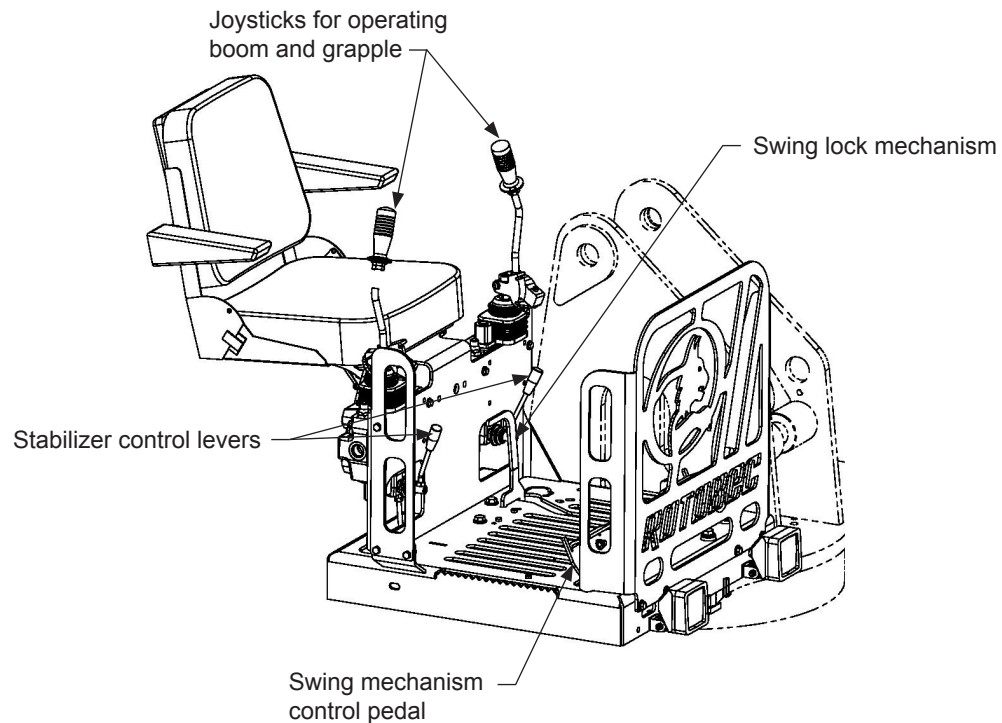

Figure 5 - Operator's seat and location of controls
For the location of these controls, refer to *Figure 5* on page 46. The controls are shown in the proper positions for starting up the loader.
The control levers for the stabilizers are located on both sides of the seat below the joysticks (see *Figure 5*, below).
3. Locate the swing mechanism control pedal at your feet (see *Figure 5* on page 46). Do not use the pedal until the swing mechanism is unlocked.